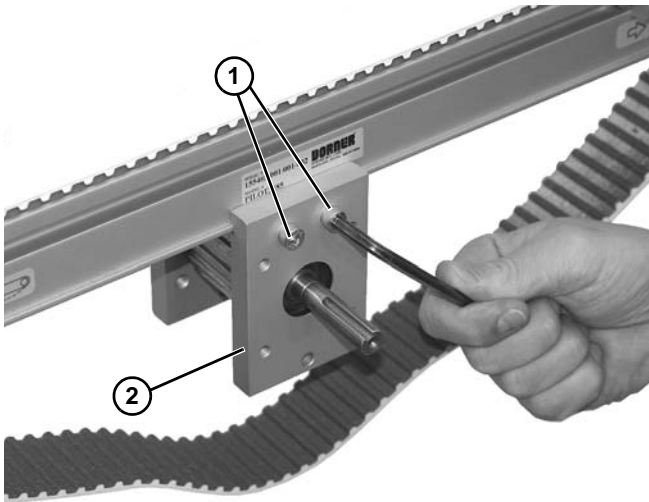

Figure 68
2. Remove two M6x25 socket head screws (**Figure 68, item 1**) from each side of mounting block (**Figure 68, item 2**).